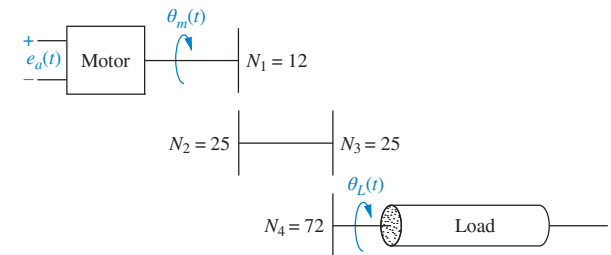

FIGURE P2.32
47. A dc motor develops 55 N-m of torque at a speed of 600 rad/s when 12 volts are applied. It stalls out at this voltage with 100 N-m of torque. If the inertia and damping of the armature are 7 kg-m^2 and 3 N-m-s/rad, respectively, find the transfer function,  $G(s) = \theta_L(s)/E_a(s)$ , of this motor if it drives an inertia load of 105 kg-m^2 through a gear train, as shown in Figure P2.32. [Section: 2.8]